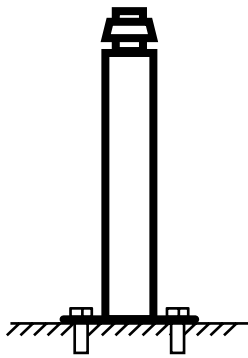

Fig. 1
1. Install and secure the base of the crane to a leveled surface (Fig. 1) that meet the requirements to support the rated capacity of the crane.